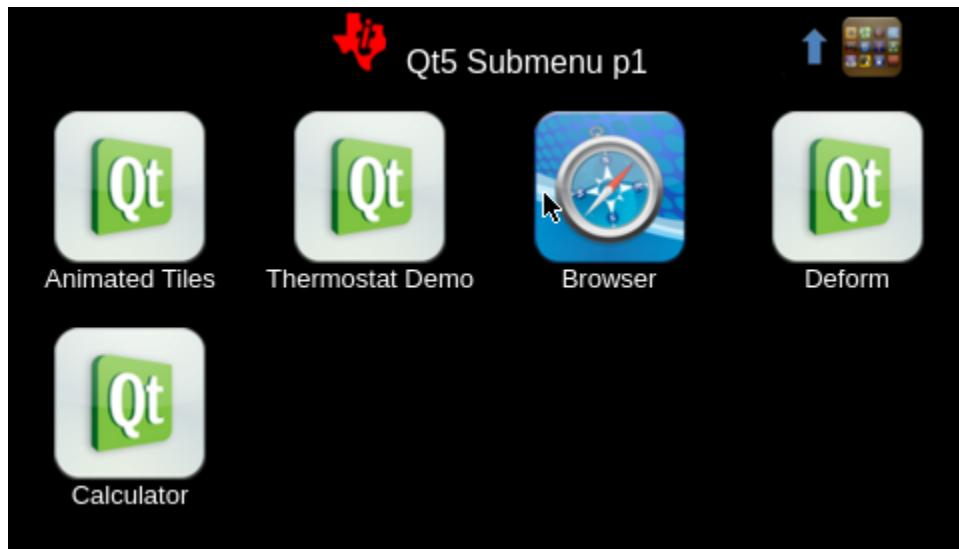

図 7. Qt5 Submenu
2. 図 7 shows the Qt5 Submenu, which is the next screen that appears. Click on the *Thermostat Demo* icon.